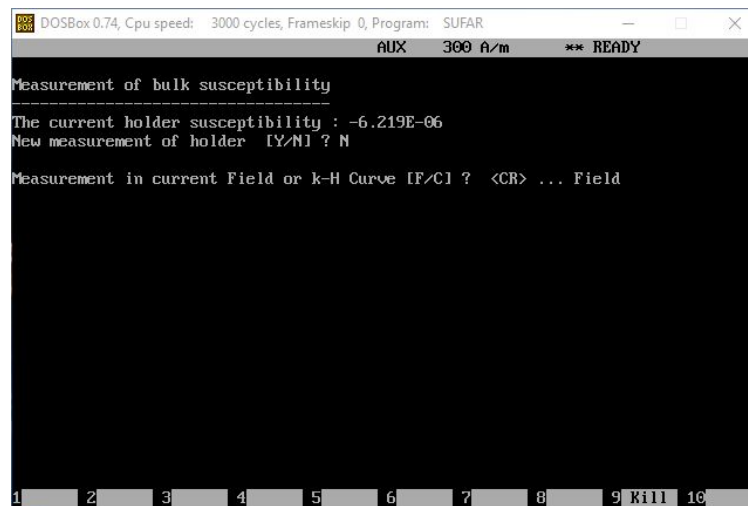

Figure 20 Prompt Window allowing user to select field for bulk susceptibility measurements
4. User is prompted to select to measure in the current field or k-H Curve. Pressing Return will trigger the default response: current field (**Figure 20**).